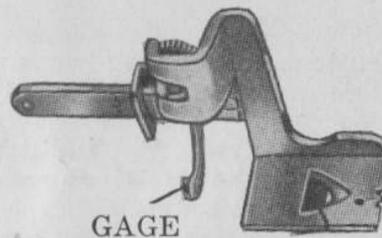

FIG. 29
- A. Remove regular presser foot and install buttonhole presser foot (fig. 29).
- B. Turn starting position knob (3) to "left" needle position (page 2).